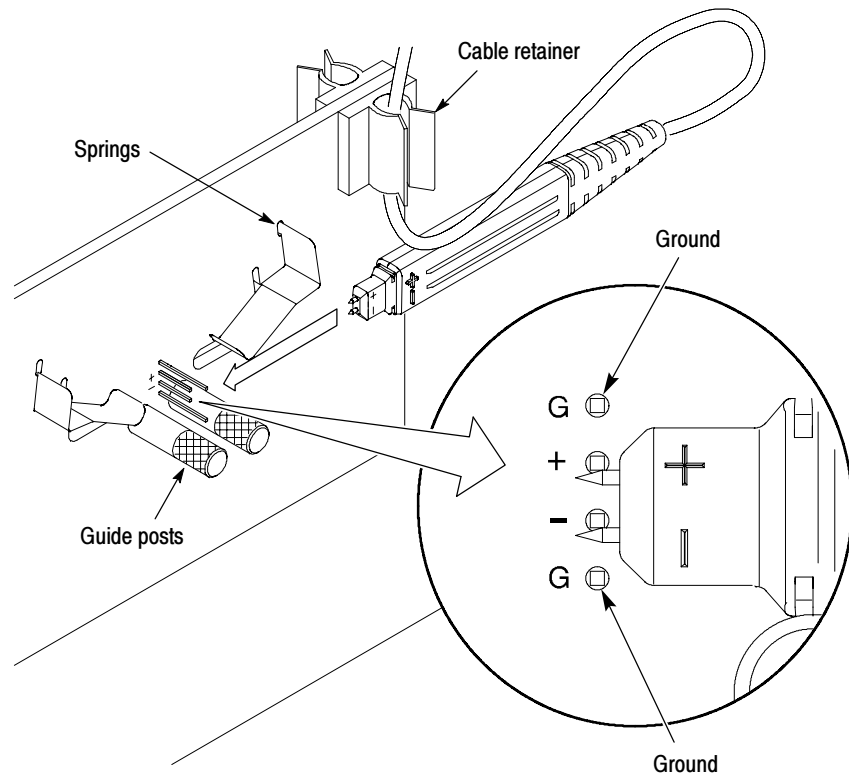

Figure 2: P6246, P6247, P6248, P6330 or P7330 fixture connections
2. Insert the probe body flush to the board between the adjacent spring and guide post. See Figure 2 on page 4.